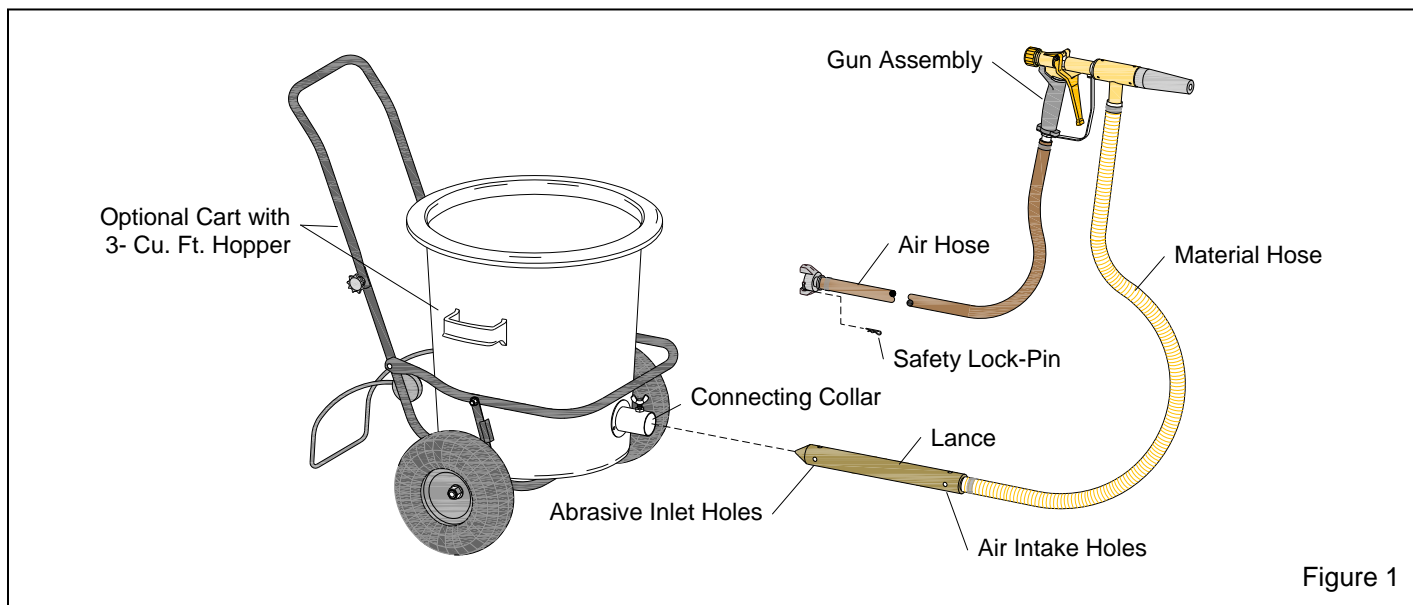

Figure 1
1.4.1.1 The components of the Power Gun are shown in Figure 1.